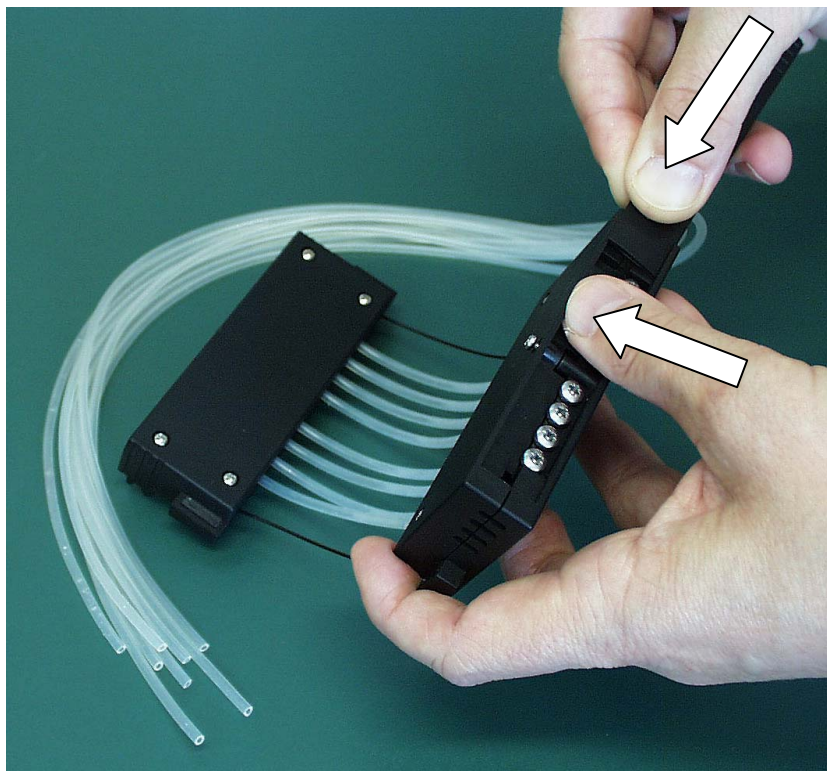

Fig. 7.30 Inserting the plate on the calibration screws
15. Insert the calibration screw cover easier by lifting or bending the upper cover slightly (Fig. 7.30).